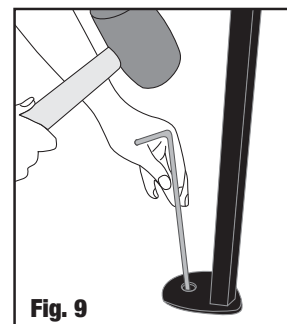

Fig. 9
- Secure shelter by driving stakes through the holes in the base of each frame post. (Fig. 9)